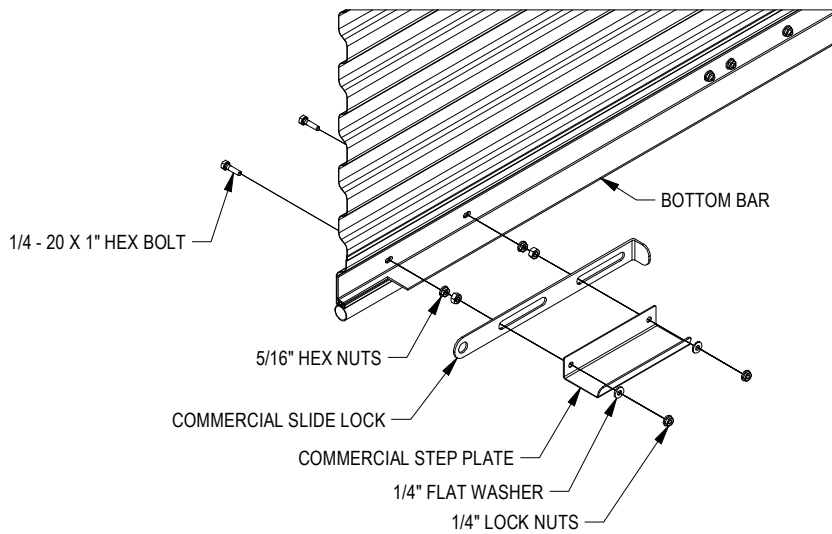

FIGURE 16:
- ▶ For a chain hoist operated door, install commercial step plates and commercial slide locks at each end on inside of bottom bar. See Figure 16.